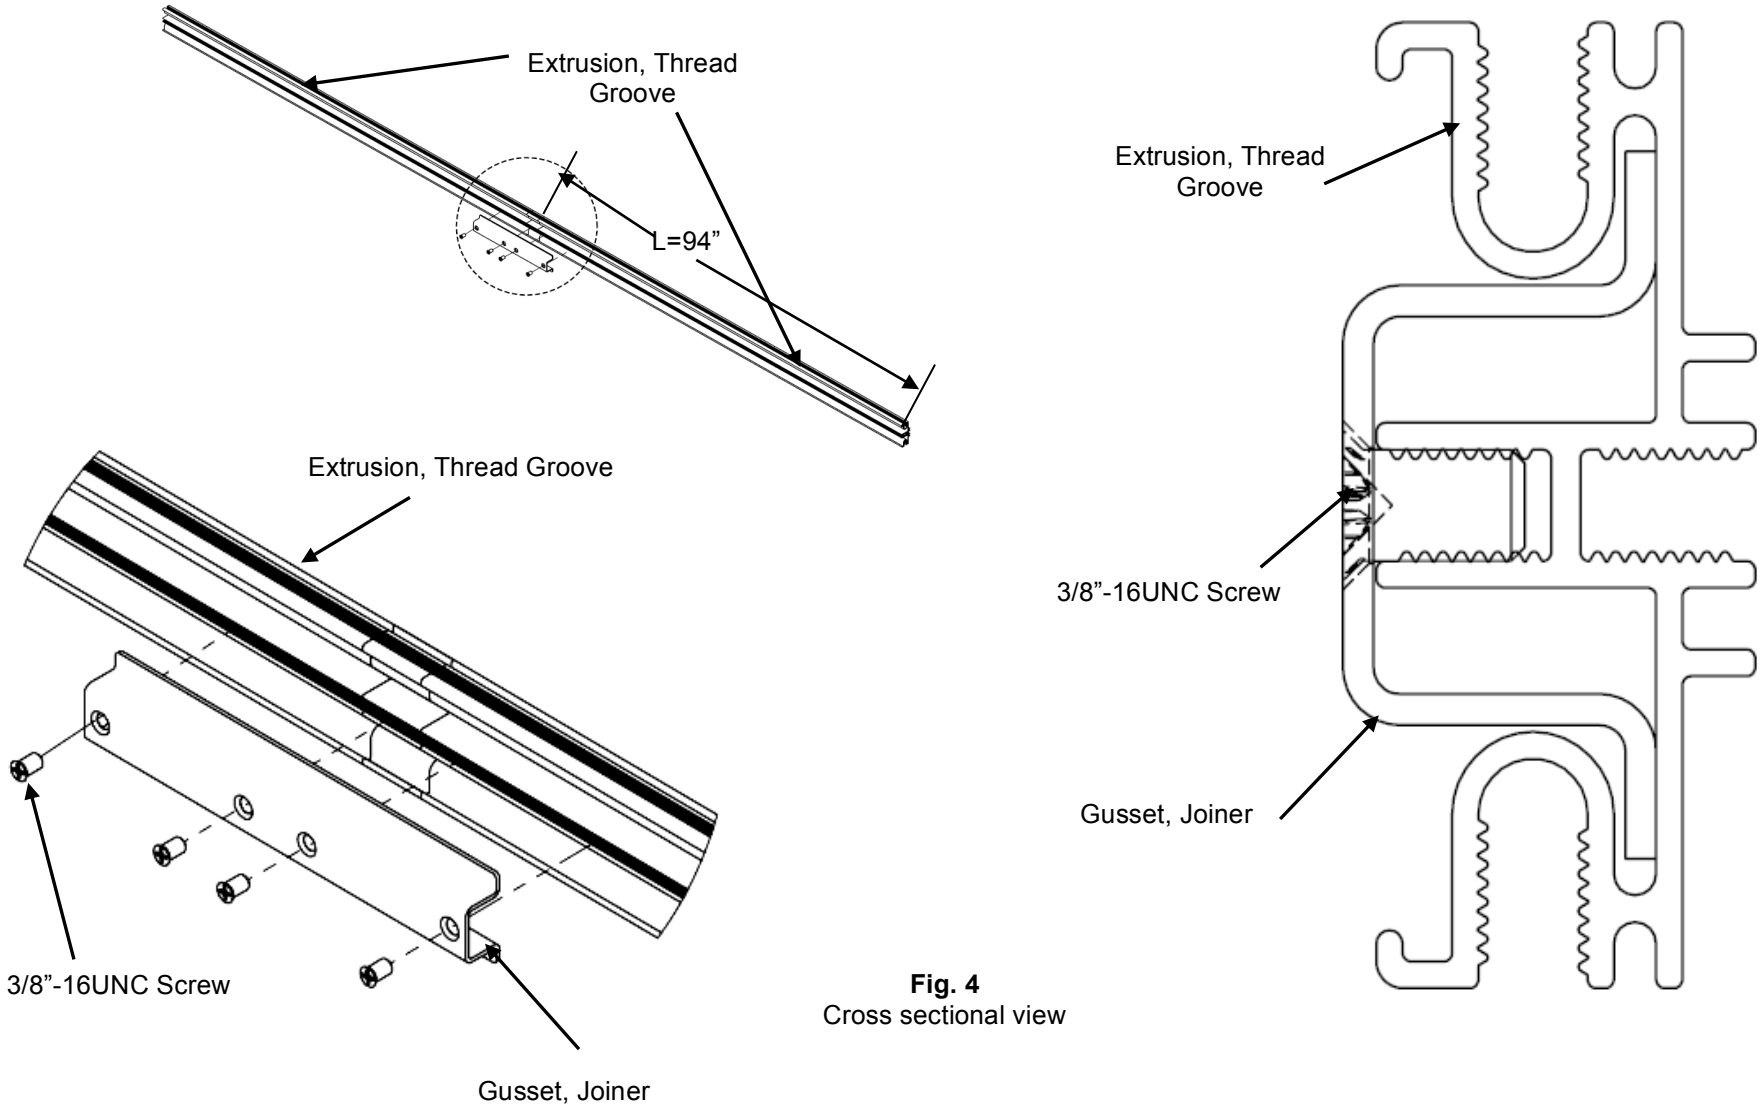

Fig. 4
5. Join the two extrusion with Joiner using 3/8"-16UNC screw (fig. 4)